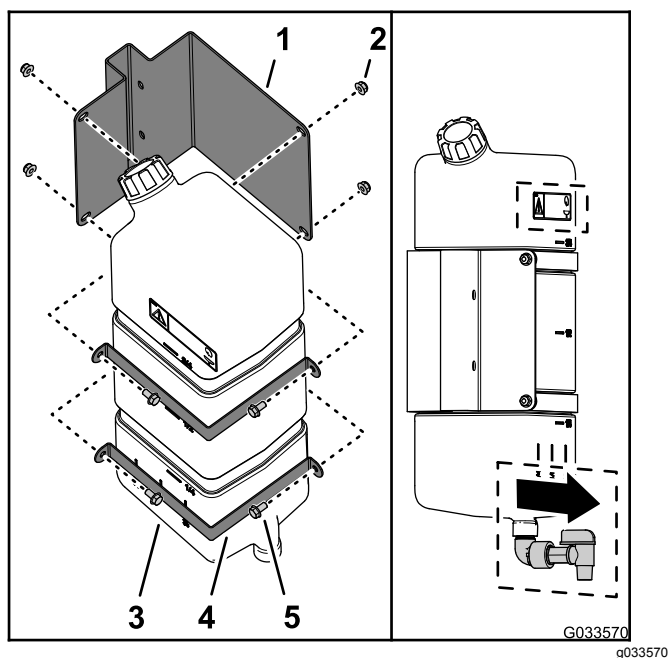

Figure 45
1. Assemble the freshwater tank to the freshwater-tank mount with the 2 mount straps, 4 flange-head bolt (5/16 x 5/8 inch), and 4 flange locknuts (5/16 inch) as shown in Figure 45.